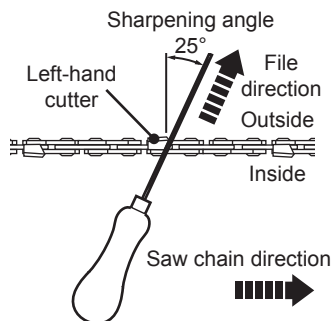

Fig. 51
- > Use the provided round file (33), whose diameter is 1.1 times the cutting tooth depth. Make sure 20% of the file diameter is above the cutter's top plate.
- > File at an angle perpendicular to the bar, and at an angle of  $25^\circ$  to the direction of travel (Fig. 51).